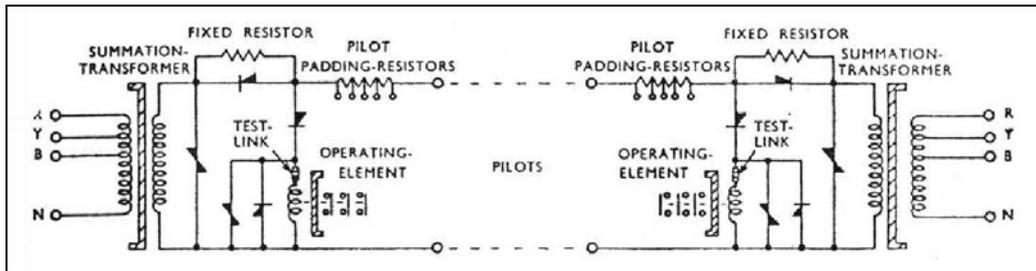

Fig.X.6.-Schematic diagram of complete "Solkor-R" protective system
- Fig. X.6 is a schematic diagram of the complete protective system. All schemes of differential protection for feeders so far described have required the use of pilot cables. When a feeder is of any length this can be costly and is rarely economical when the line is greater than 15 to 20 miles in length.